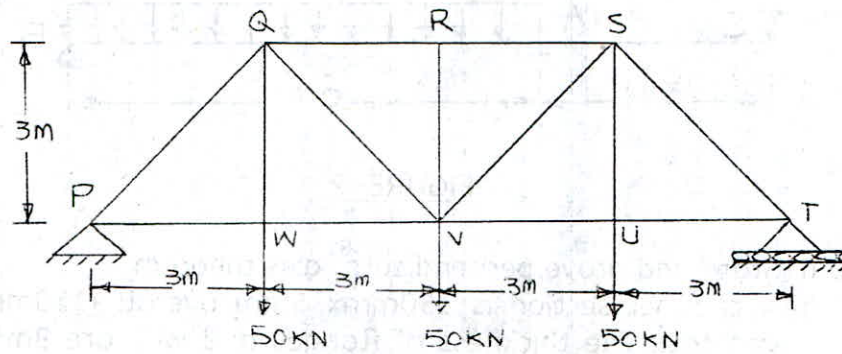

FIGURE-4
- (B) Determine the magnitude and nature of forces in the members of truss shown in figure-4 by graphical method. Tabulate the results.